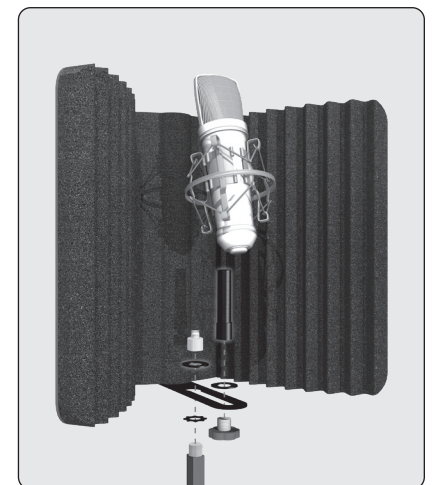

Figure 2
- The **MudGuard v2** shield may be mounted to the mic stand independently from the microphone and extension tube using the male mic thread knob and threaded adapter as shown in **Figure 2**.
Inverted mounting to a boom stand using a down tube is accomplished using the same method and hardware as as shown in **Figure 2**.